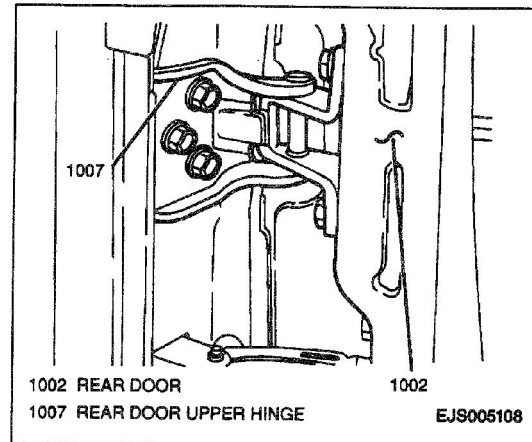

Figure 5—Rear Door Upper Hinge
15. Two bolts securing the upper hinge to the rear door and rear door from vehicle (Figure 5).